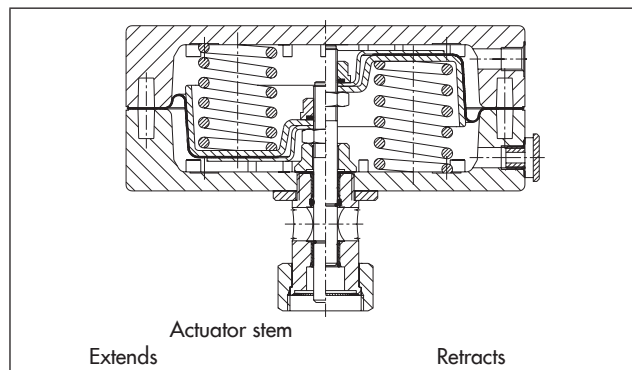
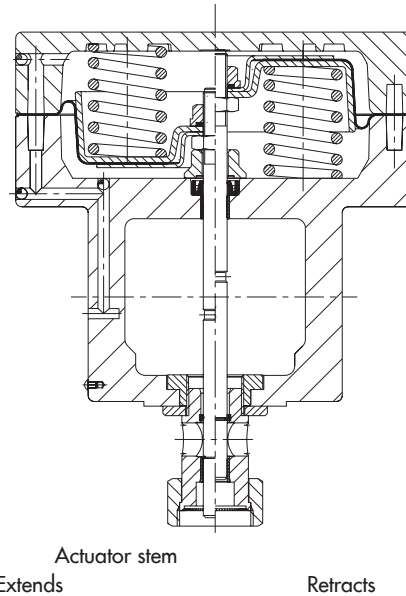

Fig. 3: Type 2780-1 Actuator
Fig. 4: Type 2780-2 Actuator
Depending on which fail-safe action is to be used for the valve when the air supply fails, the springs in the actuator are installed either in the top or in the bottom diaphragm chamber (see Fig. 3 and Fig. 4). In both cases, the signal pressure is applied to the other diaphragm chamber.
- **Actuator stem extends:** when the air supply fails, the spring force moves the actuator stem to the lower end position (see Fig. 3 and Fig. 4, left).
- **Actuator stem retracts:** when the air supply fails, the spring force causes the actuator stem to retract (see Fig. 3 and Fig. 4, right).